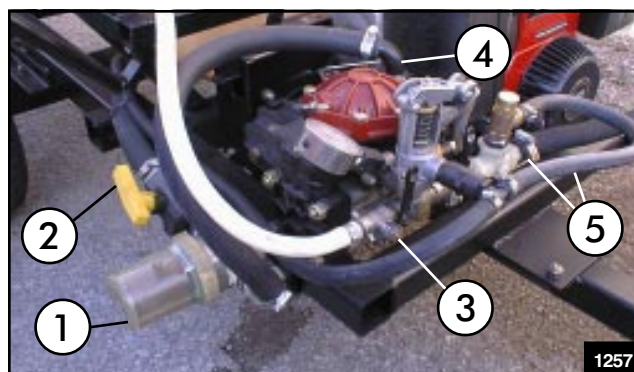

FIG. 6
2. Apply thread sealer and attach the 1-1/4" Ball Valve into the inlet port of the Suction Strainer using (1) 1-1/4" close nipple. See FIG. 6.
3. Apply thread sealer and install (1) 1-1/4" Hose Barb into the 1-1/4" Ball Valve.
4. Apply thread sealer and install (1) 90° Hose Barb into the outlet port of the Suction Strainer.
5. Secure Suction Strainer to Strainer Bracket using (1) hose clamp.
10. Attach other end of Spray Gun Hose to 1/2" Ball Valve in Pump. See FIG. 6. Wrap Spray Gun Hose around Hose Hooks when not in use.
11. Install (1) 1/2" x 90° Hose Barb into the front port Pressure Relief/Adjustment Valve using (1) 1/2" Close Nipple and Coupling. See FIG. 6.